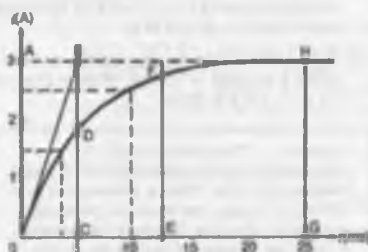

Figure 18.11
- With reference to Fig. 18.11, the initial slope is obtained by making AB equal to 1 time constant (i.e. 5 ms), and joining OB.